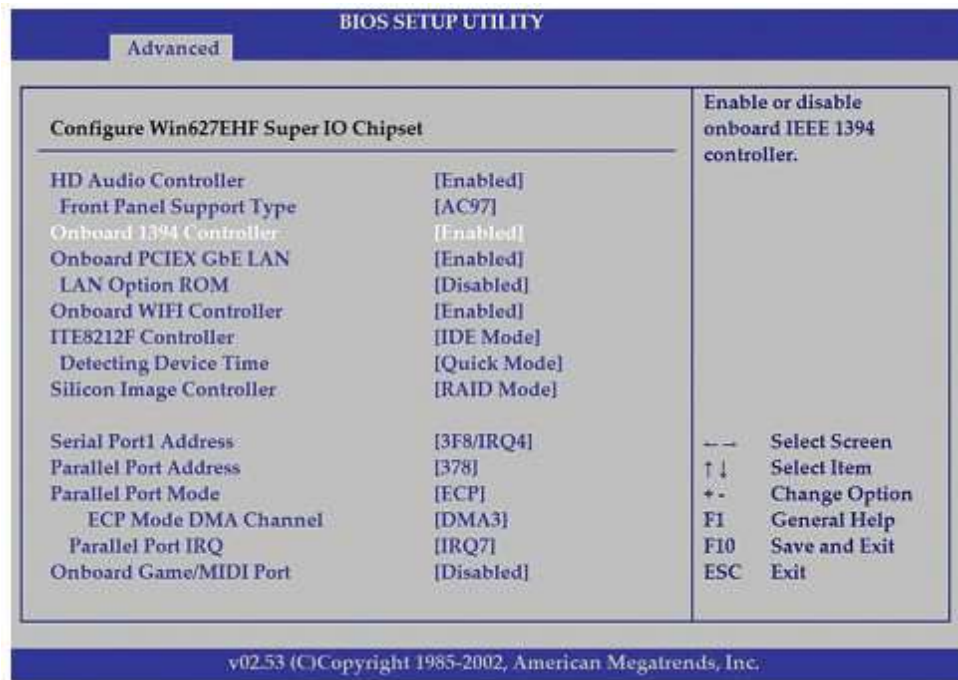

Figure 19
9. Check available ports on the motherboard, such as sound, video, USB 1.1, USB 2.0, serial, IEEE 1394, parallel, network, modem, and PS/2 ports. Enable or disable such ports as you require. If you're having a problem with a port, check BIOS setup to make sure the port is enabled (See Figure 19).